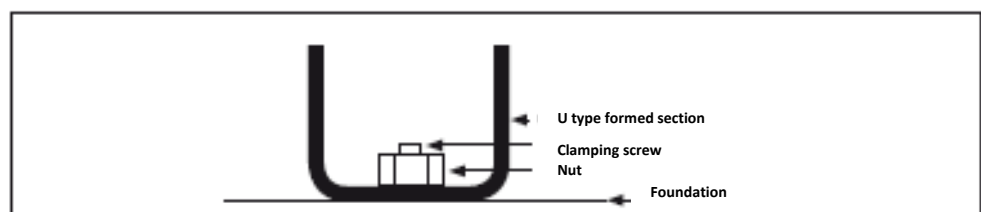

Figure 02
- > Fit the U formed sections to the threaded rods (see figure 02) of the anchoring studs and then bolt the whole assembly together.